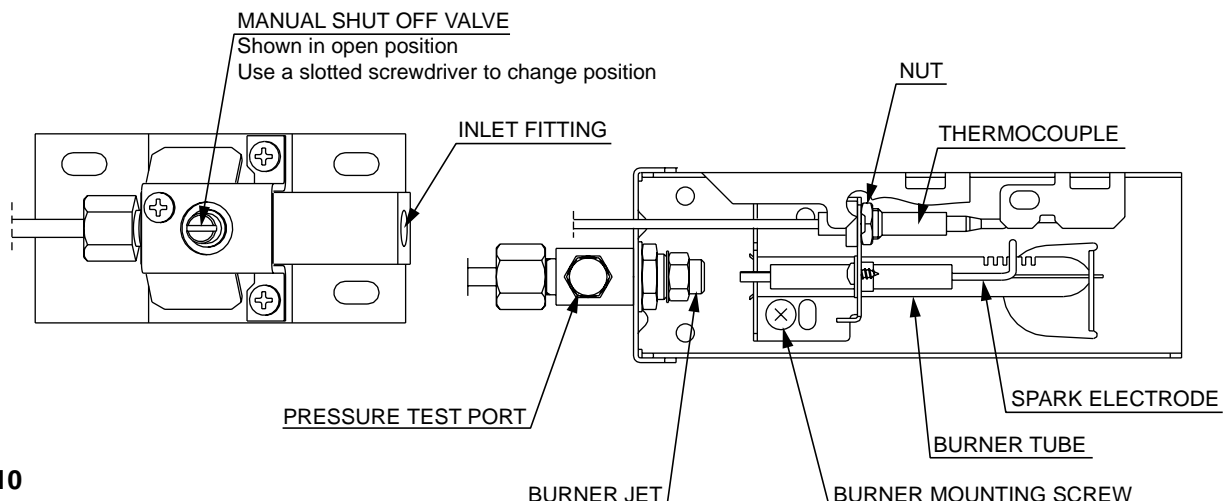

FIG. 10
- C. The LP gas pressure should be checked and the main regulator readjusted if pressure is incorrect. The correct operating pressure is 2,7 kPa. The correct place to take the LP gas pressure is at the test port just ahead of the burner jet. (See FIG. 10).
6. Remove the burner mounting screw and remove the burner assembly. (See FIG. 10).
- Clean. (See section Maintenance & Service, item 3. Periodic Maintenance, Paragraph D. item 1-14).
- Set main regulator so pressure does not drop below 2,7 kPa at pressure test port. (See FIG. 10).